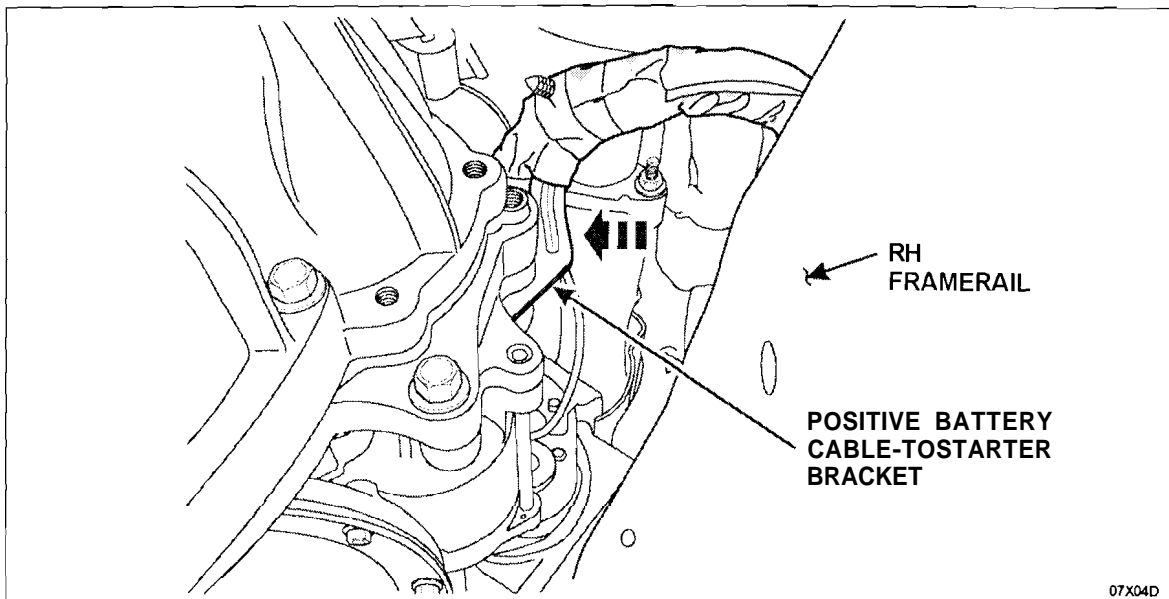

FIGURE 3
4. If still unable to fit your hand between the splash shield bolt and the positive battery cable (at least 15 mm [5/8 in] clearance), then pull the cable towards the engine to bend the positive battery cable-to-starter bracket to create the necessary clearance (at least 15 mm [5/8 in]). Then verify the clearance between the splash shield bolt and the positive battery cable. See Figure 3.